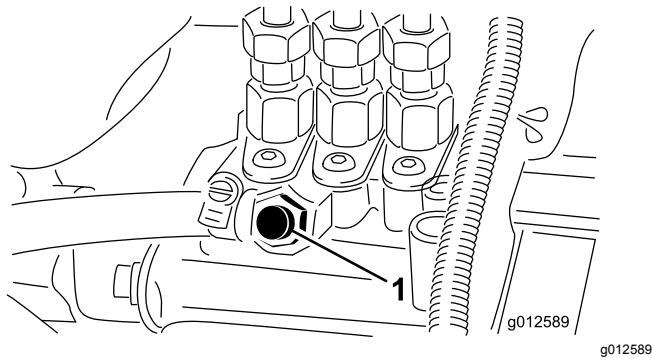

Figure 28
5. Open the air-bleed screw on the fuel-injection pump (Figure 28).